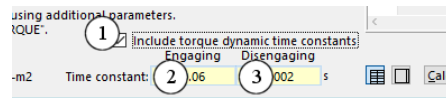

Figure 23. Display when option for dynamic time constant is enabled.
- ① Checkbox for using a 1st order time delay of the clutch torque capacity (keyword = OPT_CLUTCH_DELAY). When checked (Figure 23), extra data fields (② and ③) are shown that specify the time constants. If not checked, the clutch torque responds instantly without delay.